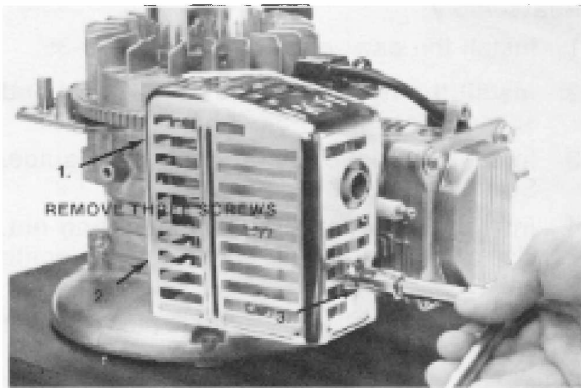

Figure 4-1
2. Remove the three screws retaining the muffler shroud. See Fig. 4-1.